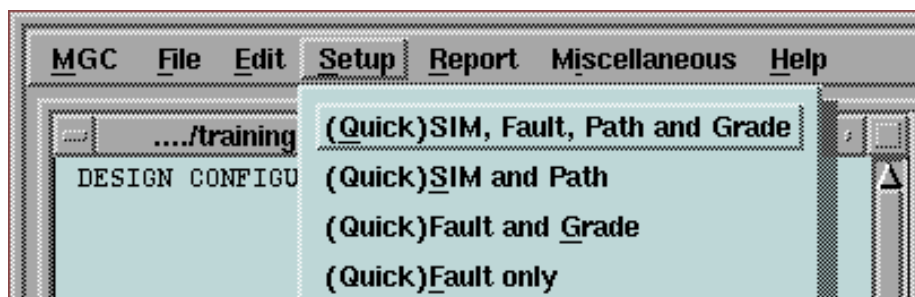

Figure 3-24. Setup > (Quick)SIM, Fault, Path and Grade Menu Item
3. Choose the **Setup > (Quick)SIM, Fault, Path and Grade** pulldown menu item, as shown in Figure 3-24.